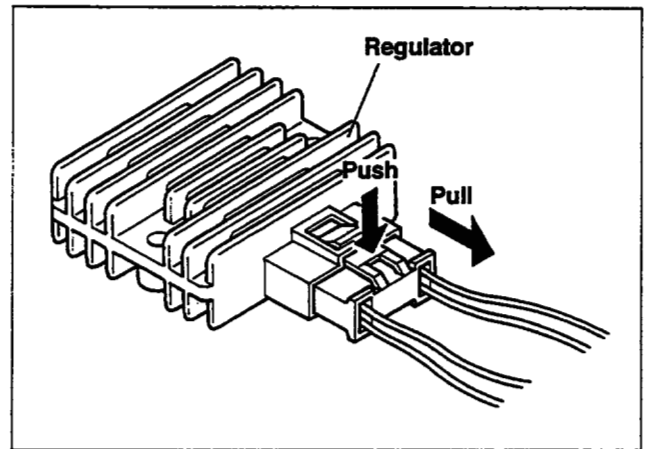

Fig. 10-47
- (2) Disconnect the connectors on the wires to detach the control panel and box.
- (3) Remove the regulator, oil sensor unit, condensers and diode rectifier from the control box. When removing the regulator, push the hook on the coupler and pull out to disengage the couplers. (See Fig. 10-47.)
- (4) After disconnecting individual wires, remove the control panel components.